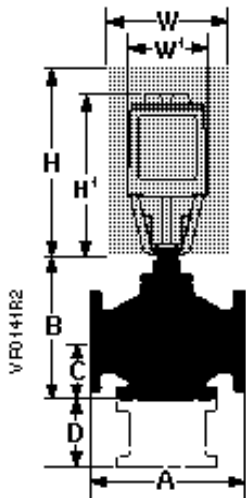

Figure 5.
- For flange dimensions and bolt hole information, see *Cast Iron Flange Dimensions for 2-1/2 through 6-inch Valves Technical Bulletin* (140-0038 [TB 248]). Allow sufficient space for servicing the valve and actuator. See Table 12 for valve body dimensions. See Table 11 and Figure 5 for dimensions of the service envelope recommended around the actuator.
The letters in Figure 5 refer to actuator and service envelope dimensions in Table 11. See Table 12 for valve body dimensions.